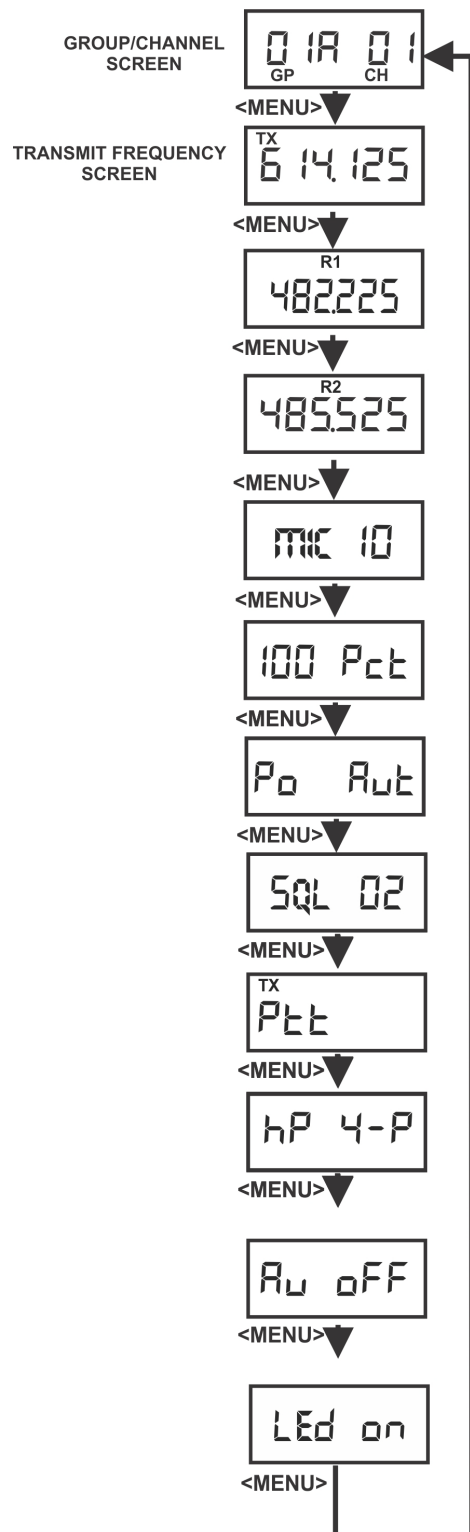

FIGURE 78. Group/Channel and Transmit Screen
1. Set **the unit** to the desired user-defined group and channels. *See Groups and Channels Instructions. The menu structure in Figure 78 indicates how to get to the transmit frequency screen.*